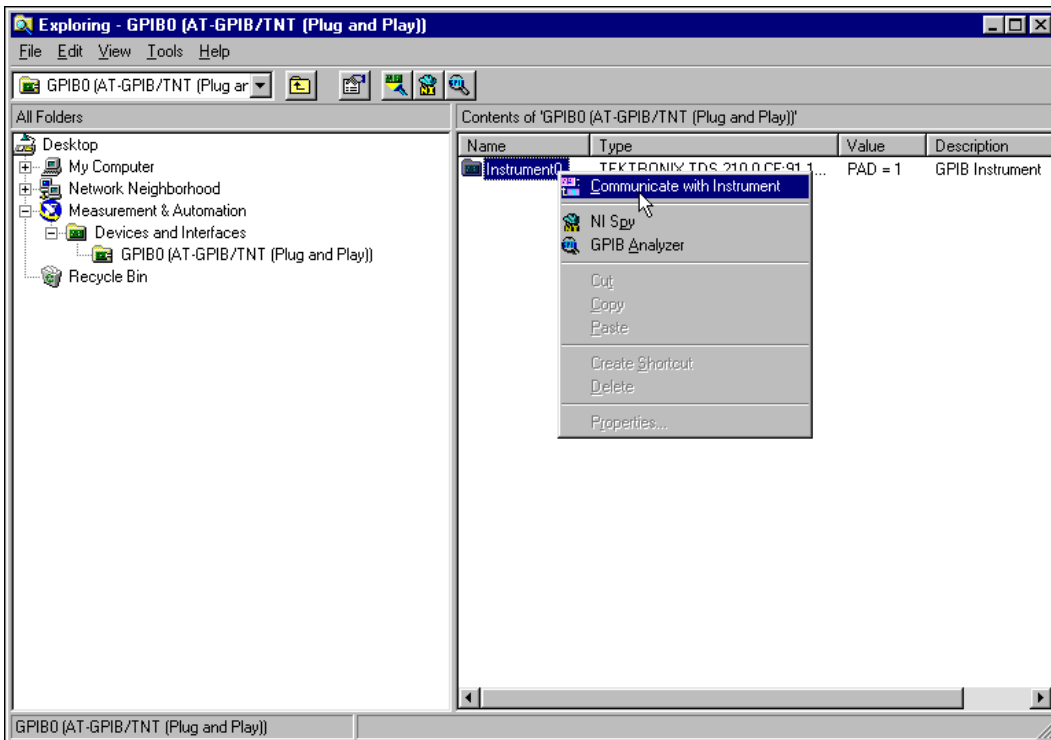

Figure 2-7. Select Communicate with Instrument
2. Start the NI-488.2 Communicator by selecting the GPIB instrument in the right window frame of Measurement & Automation Explorer, right-clicking, and choosing **Communicate with Instrument**, as shown in Figure 2-7.